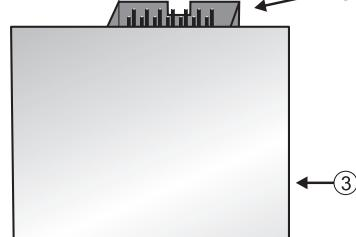

Fig. 3.
3. Install the control valve with a filter on cold water supply (Fig. 3).